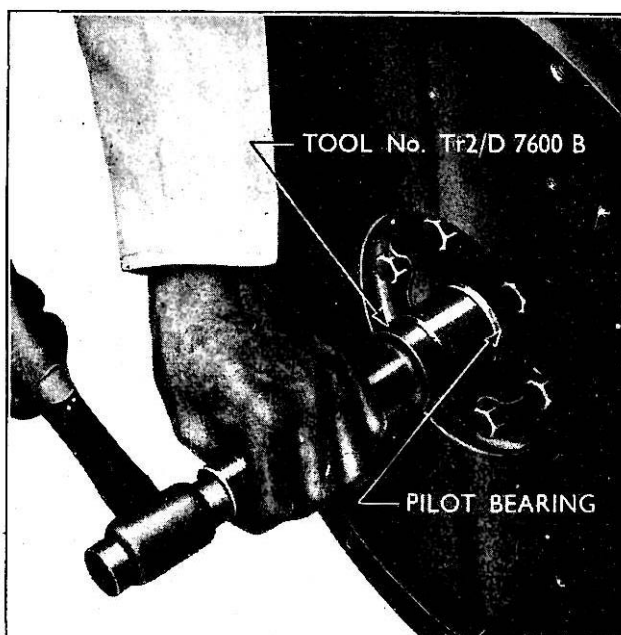

Fig. 151
- 1 Locate the new pilot bearing in its location (baffle face outwards) and tap into position using the clutch pilot bearing replacer, tool No. Tr2/D 7600-B, as shown in Fig. 151.